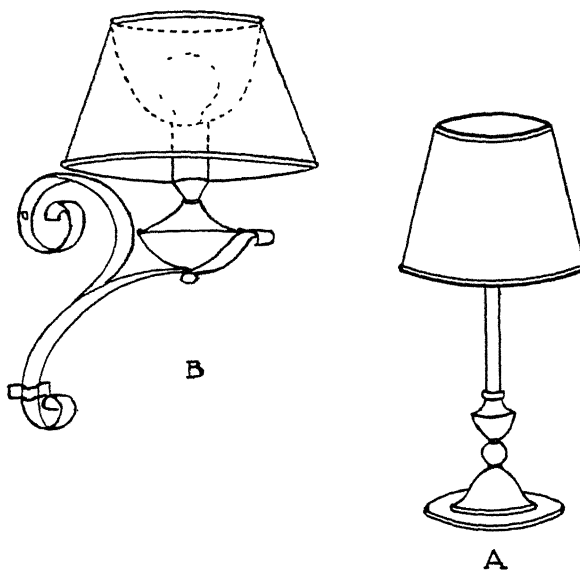

Fig. 18. — A vanity lamp (A) of the correct height, or a pin-up lamp (B) may be used at the dressing table in the bedroom.
*Bedroom.*—An upright bracket with an open top shade and a 40- to 60-watt bulb placed on each side of the mirror at face level about 30 inches apart provides adequate light. A pair of vanity lamps high enough to direct light on the face, are often more desirable than the wall brackets, at the mirror on the dresser or dressing table. (See illustration (A), Fig. 18).
A diffusing bowl as shown in the pin-up lamp (B), Fig. 18, gives a great spread of light. A similar bracket or lamp with a diffusing bowl placed at the head or at the side of the bed requires little space and provides adequate light for reading (see Fig. 17).